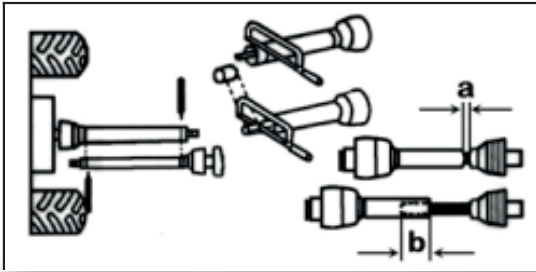

Figure 12- Adjusting the PTO shaft to a suitable length.
- Pull out the PTO shaft entirely and connect each separate half of the shaft to the tractor and to the machine and then compare them with each other. (Figure 12)